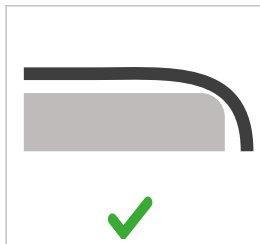
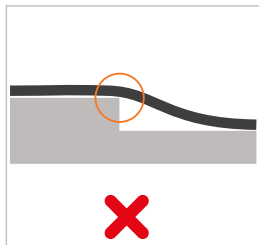

Figure 5
Figure 8
- ▶ Do not pull the hose over any sharp edges (*Figure 5 to Figure 8*).